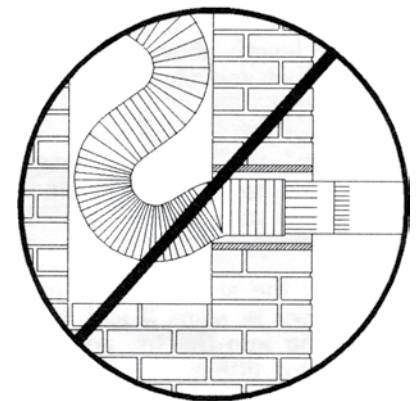
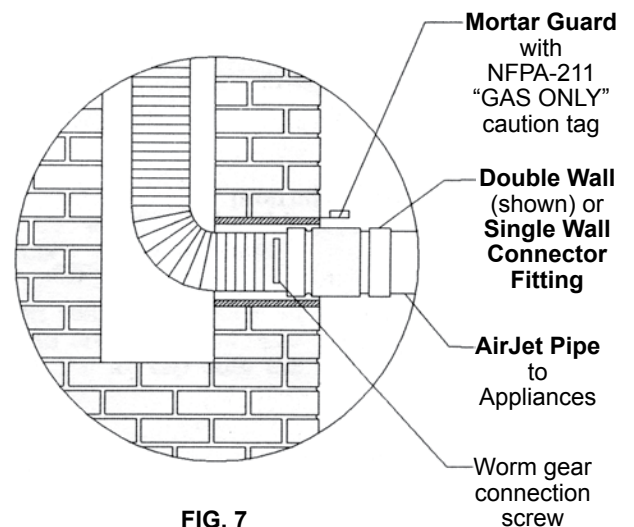

FIG. 6
FIG. 7
Step 11. The assistant at the bottom outlet pulls the liner taut (without over-stretching) to eliminate excessive bends or corrugation compressions in the final installation (see FIG. 6). Trim off excess so that the liner extends approximately 1 to 2 (2.54 to 5.08 cm) inches outside the opening in the chimney. Retain starter cone for repeat use. Extra flex may also be used as a splicer piece on other jobs. Slide the mortar guard over the liner and into position in the opening of the chimney (see FIG. 7).
Step 12. Attach the appropriate fitting, preferably the "FLEXJET" drip free "B" - vent or single wall connector fitting with positive worm gear screw connection. Cement the mortar guard in place with the NFPA-211 required tag flipped outwards and visible for inspection. Slide the connector fitting back slightly so that the worm gear connection is encased just inside the mortar guard. The system is now ready for hookup as appropriate to either type "B" - vent or single wall connector to the appliance (see FIG. 7).